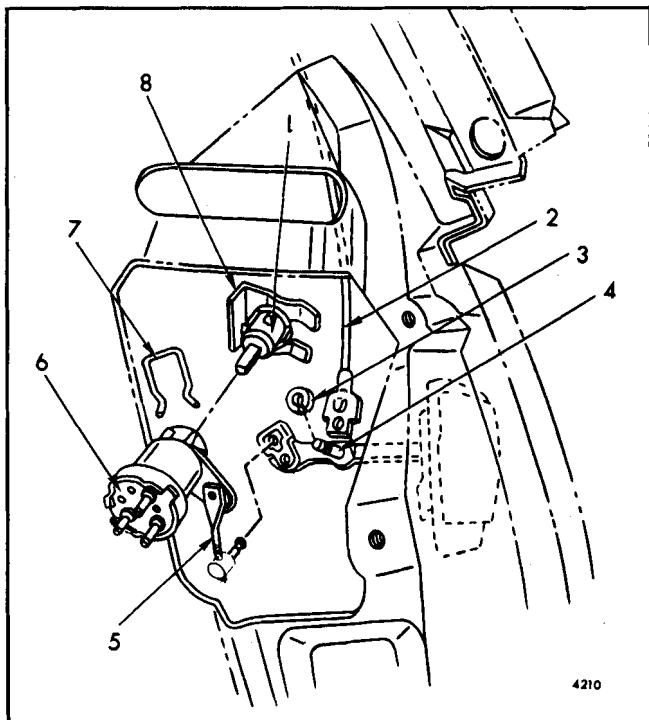

Fig. 9-25-Lock and Release Switch Assembly
3. Working around right pillar inner panel, disengage tail gate window stop cable and switch assembly link at lock lever (Fig. 9-25).
The tail gate and window control switch mounted on the rear of the right quarter outer panel adjacent to the tail gate is a combination of lock cylinder and control switch. Two control switches are used; one for the manual tail gate which includes a link to the lock lever, and one for the power operated tail gate (without link). Figure 9-25 is typical of the clip method by which both manual and power operated tail gate switches are retained to the lock cylinder.
3. Disengage wire harness terminal block off control switch - manual or power (Fig. 9-25).
4. On manual tail gate control switches, disengage control switch-to-lock lever link. On all switches remove wire clip securing control switch to lock cylinder and remove control switch (Fig. 9-25).
4. Adjust swivel on switch-to-lock lever link to align with clip hole on lock lever and engage swivel (Fig. 9-25).